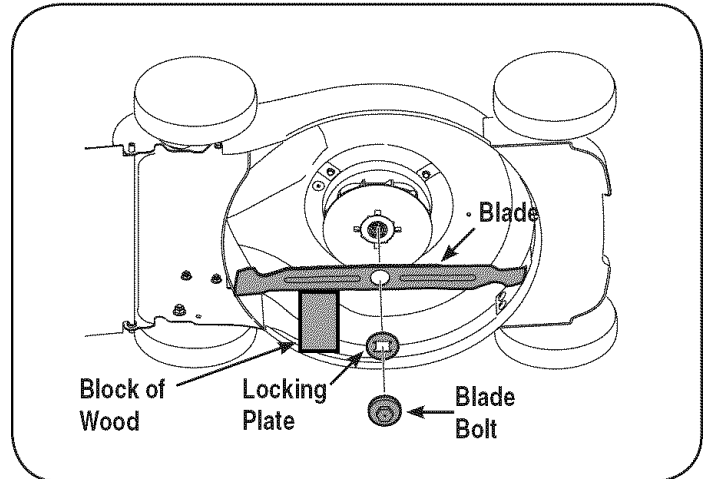

Figure 11
2. Place a 2x4 block of wood approximately 8.5" long between the deck housing and the cutting blade to act as a stabilizer. See Figure 11.
3. Loosen and remove the blade bolt, locking plate, and blade. See Figure 11.